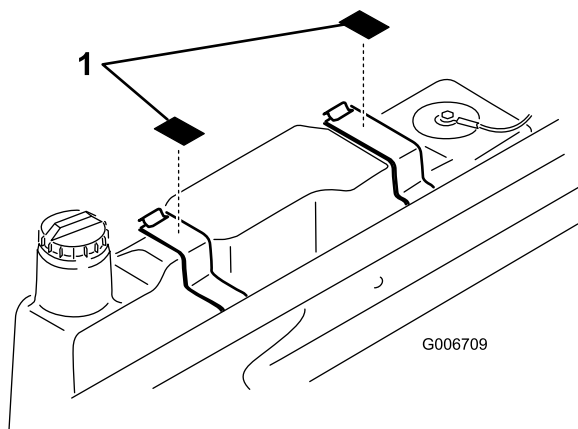

Figure 16
2. Affix a "No Step" decal to top of each fuel tank mounting strap, as shown in Figure 16.